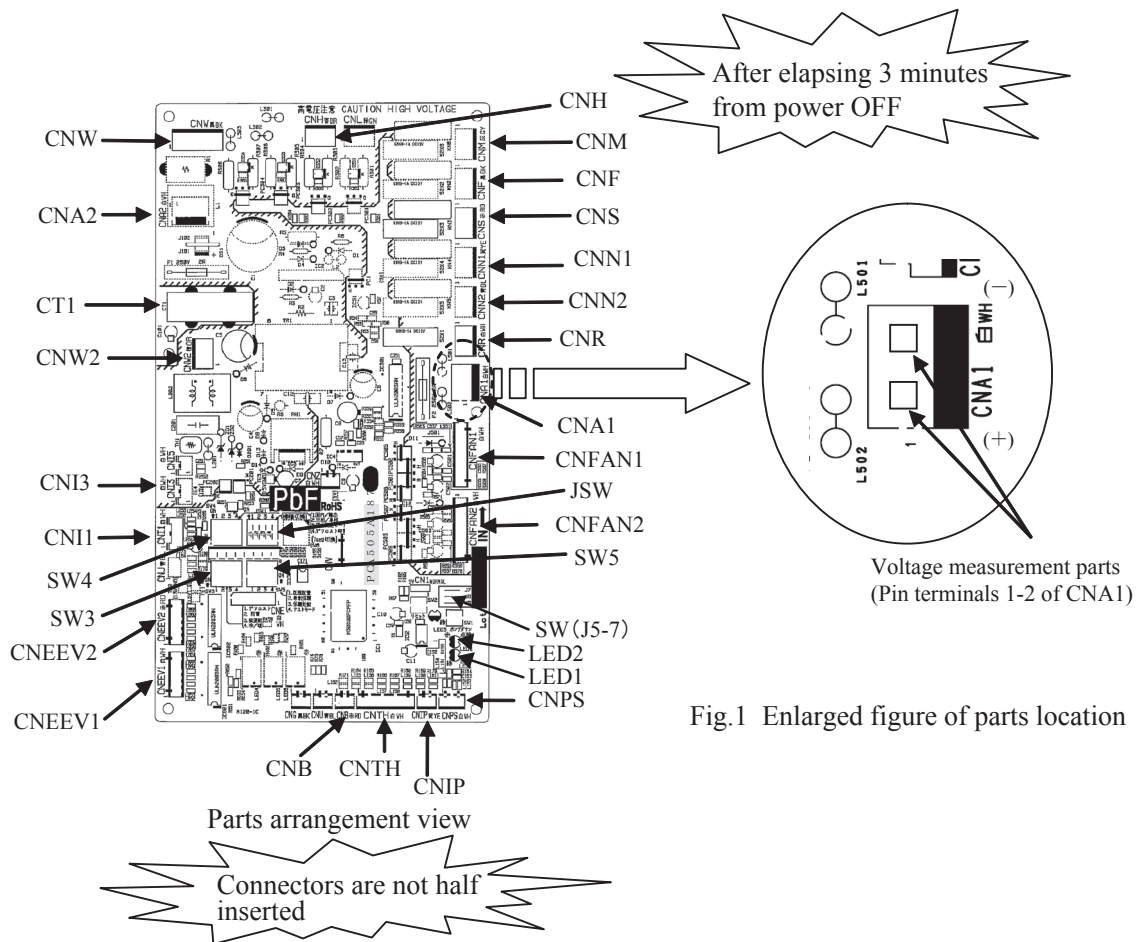

Fig.1 Enlarged figure of parts location
- 6) Connect the connectors with the control PCB referring to the parts arrangement of Fig.1.
(Be sure to measure voltage (DC) on both capacitor terminals located in control back, and check that the voltage is discharged sufficiently. (Refer to Fig.1))
(**Be sure to measure voltage (DC)** on both capacitor terminals located in control back, and **check that the voltage is discharged sufficiently**.(Refer to Fig.1))